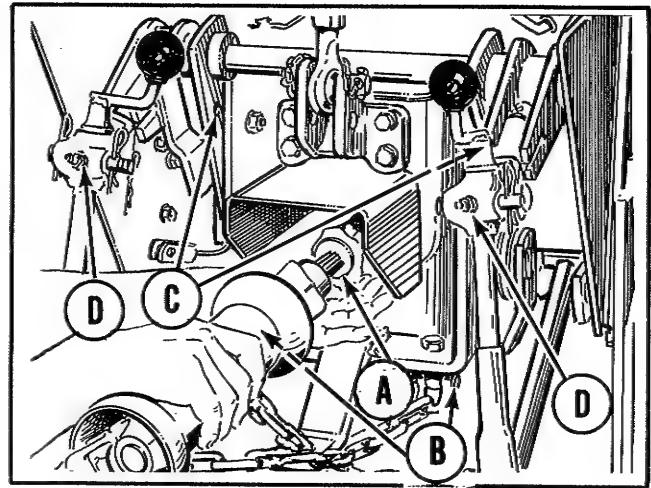

Figure 53. Attaching a power take off shaft.
See figure 53. The restraining chains can be moved from the eyebolts (B) to the frame holes (C) to hold the three-point hitch in the raised position while the hydraulic couplings are being disconnected or the hydraulic cylinder removed to be used in the front.
ATTACHING POWER TAKE OFF: (Figure 53) If the attachment is driven by the rear power take off drive, hook up the power take off drive shaft at this time before attaching the turnbuckle link. **CAUTION: BE SURE THE TRACTOR ENGINE IS STOPPED.** Start the drive shaft spline in the internally splined power take off. While holding the drive shaft in place with one hand, use the other to turn the outer locking ring (A) of the power take off drive clockwise and hold it there. Slide the power take off shaft into the drive and release the locking ring. Insure the locking pins have seated in the groove of the power take off drive by attempting to pull the drive shaft out. To remove the drive shaft, turn the locking ring clockwise and pull the drive shaft out.